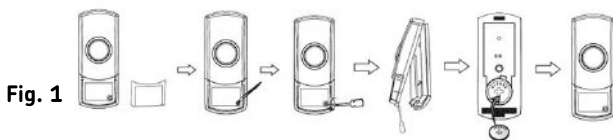

Fig. 1
- Remove the nameplate cover. Remove the small rubber screw cover in lower right-hand corner with thin-tipped tweezers or a needle, and unscrew the retaining screw (see Fig. 1)
- When using screws to attach to a surface open the bell push as instructed in Fig. 1, pierce the fixing holes on the rear of the bell push, and mark locations for drilling